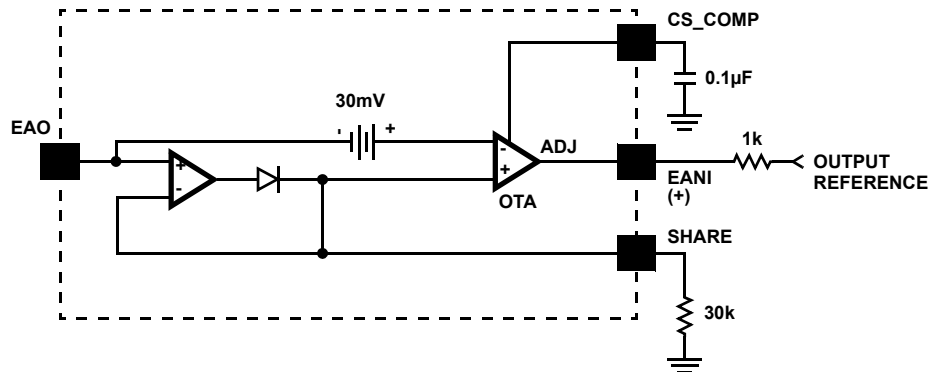

FIGURE 13. SIMPLIFIED CURRENT SHARE CIRCUIT
- The unit with the highest reference is the master. Other units, as slaves, adjust their references via a source resistor to match the master reference sharing the load current. The source resistor is typically 1kΩ connecting the EANI pin and the OUTPUT REFERENCE (external reference or BGREF), as shown in Figure 13. The share bus represents a 30kΩ resistive load per unit, up to 10 units.